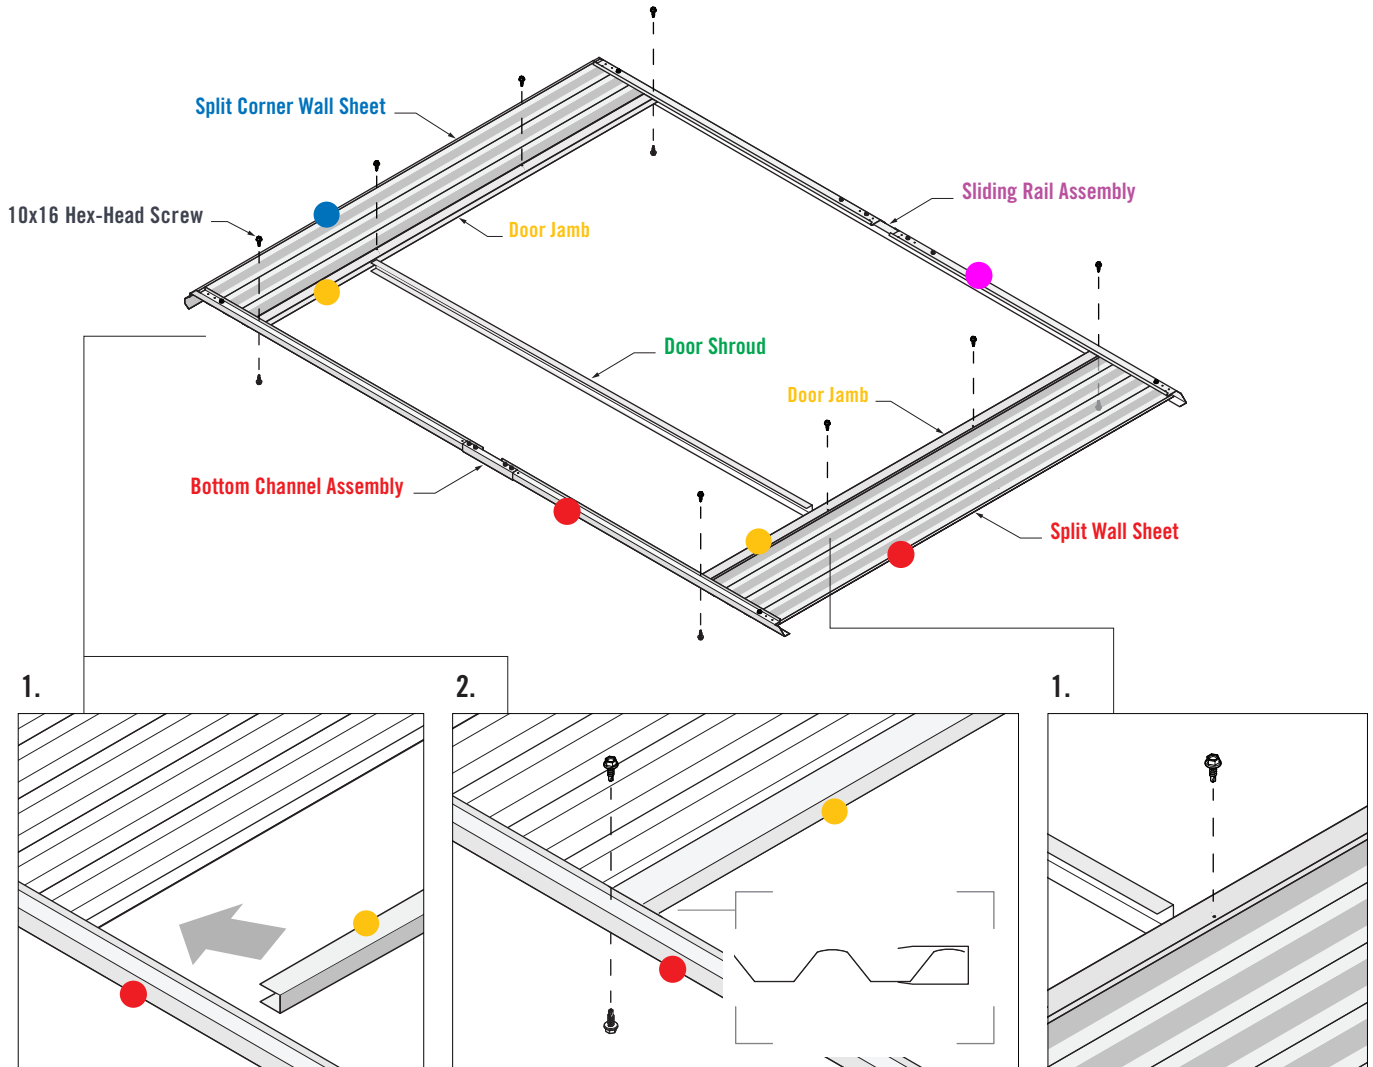

FIGURE 5.3
1. Fit the **Door Jambs** into the **Bottom Channel Assembly** and **Sliding Rail Assembly**. Position the **Door Jambs** over the Wall Sheets. Set the correct spacing of the **Door Jambs** using the **Door Shroud** as a guide. Fasten two 10x16 Hex-Head Screws through pilot holes in the **Door Jambs** and into to the Wall Sheets (Figure 5.3).
2. Fasten both **Door Jambs** to the Channel Assemblies with four 10x16 Hex-Head Screws (Figure 5.3).